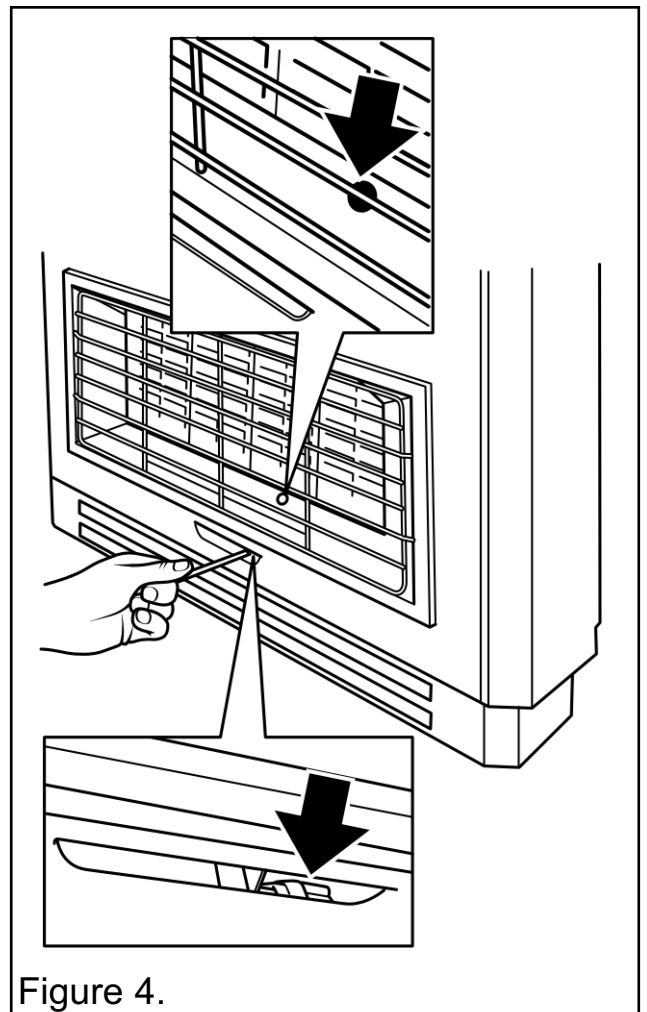

Figure 4.
- Depress the control knob and slowly turn anticlockwise towards the 1/IGN position. A spark should be generated at the pilot while turning. The spark should ignite the pilot. **If it does not**, keeping the knob depressed, continue to turn the knob anticlockwise. A **second** spark should ignite the pilot. The pilot flame can be seen through the opening immediately below the right hand centre radiant (See upper section of figure 4).
- Depress the control knob slightly and turn anticlockwise towards the 1/IGN position. Do not apply too much pressure as this will cause resistance to be felt. Depress the control knob. Sparks should be generated at the pilot. The sparks should ignite the pilot. If the pilot does not light, turn the control knob back to the 'OFF' position and try again. The pilot flame can be seen through the opening immediately below the right hand centre radiant (See upper section of figure 4).
While keeping the knob depressed, light the pilot by inserting a long match or taper into the opening shown in figure 4 (Second opening from the right).